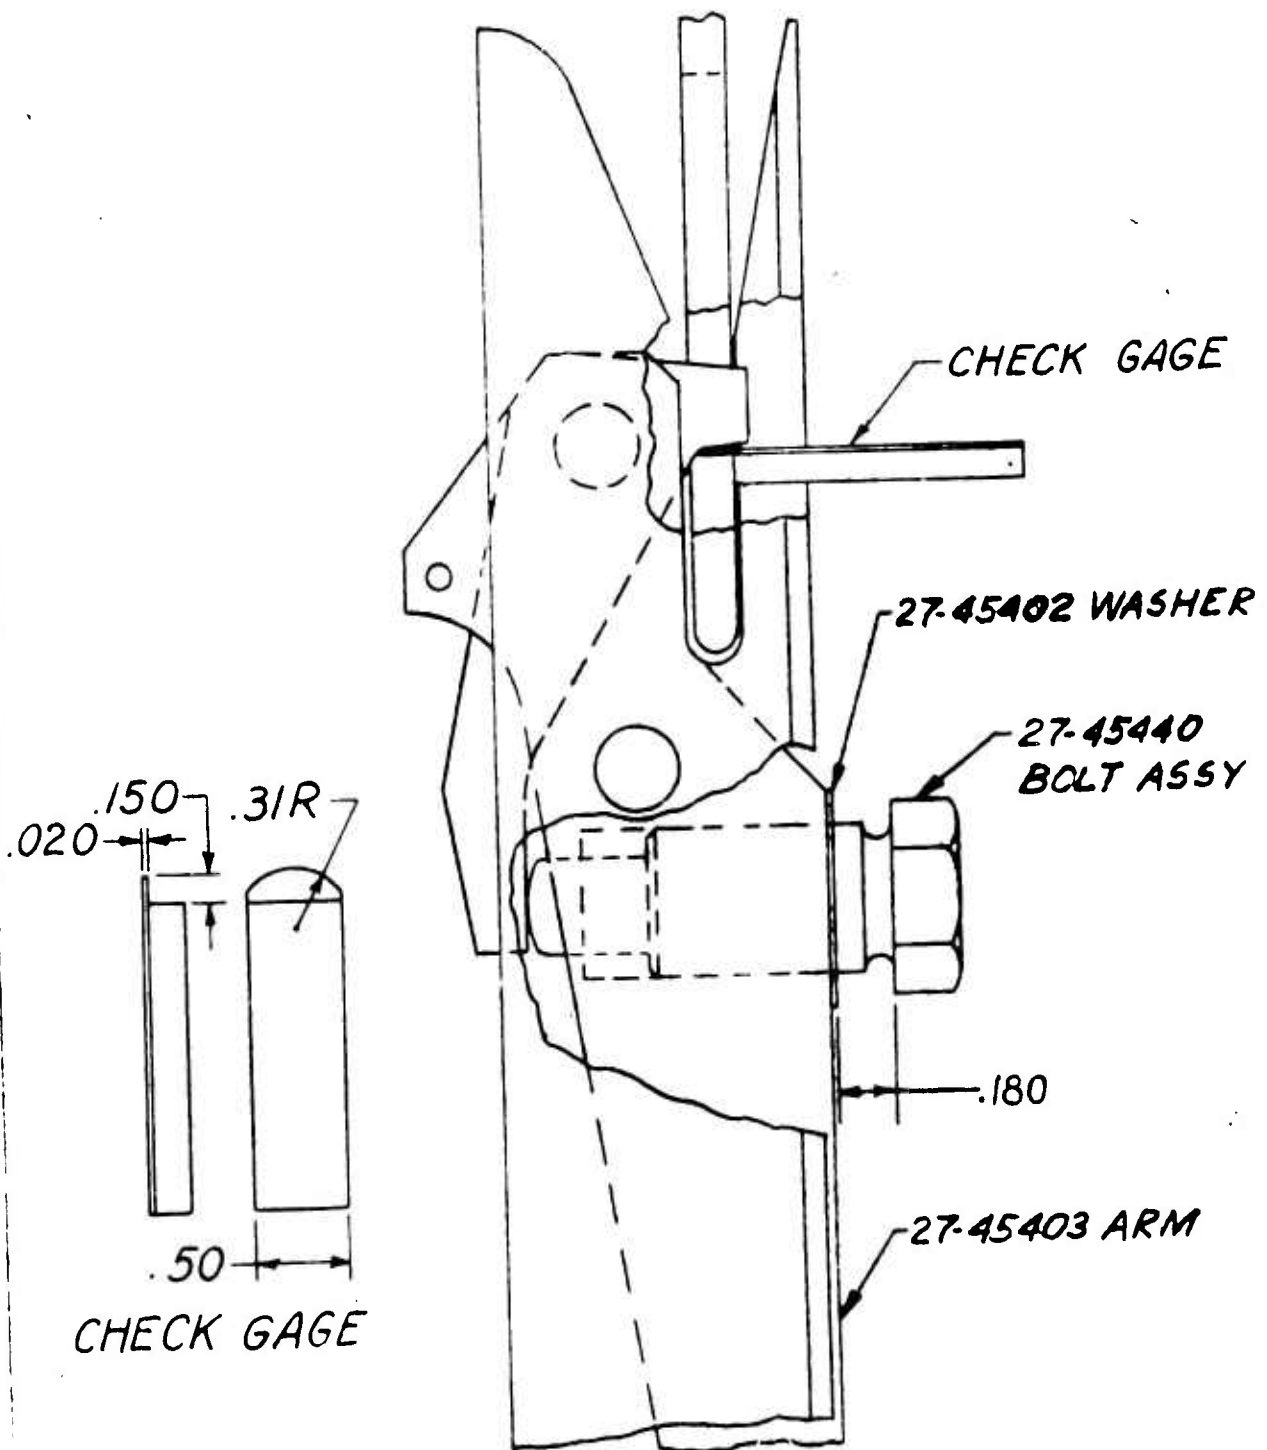

FIGURE 5
- g. Replace the 27-45440 bolt assembly and the 27-45402 washer in the 27-45403 arm so that a gap of .180 inches exists between the bottom surface of the bolt head and the top surface of the 27-45403 arm (See Fig. 5). The .180 dimension is most easily achieved by using a .180 inch spacer between the bolt head and the washer. (See Fig. 5).
- h. While maintaining the .180 inch gap between the 27-45439 bolt head and the 27-45402 washer, adjust the 27-45405 bolt counter-clockwise until the 27-45438 slide contacts the 27-45406 hook and a .020 inch gap is obtained between the mating surfaces of the 57-72212 fitting and the 27-45406 hook. To obtain the correct gap use the check gage (See Fig. 5) and insert it thru the 7/8 inch
- a. Back off the 27-45440 bolt assembly until a .180 inch gap exists between the 27-45439 bolt head and the 27-45402 washer with the washer resting on the 27-45403 arm (See Fig. 5).